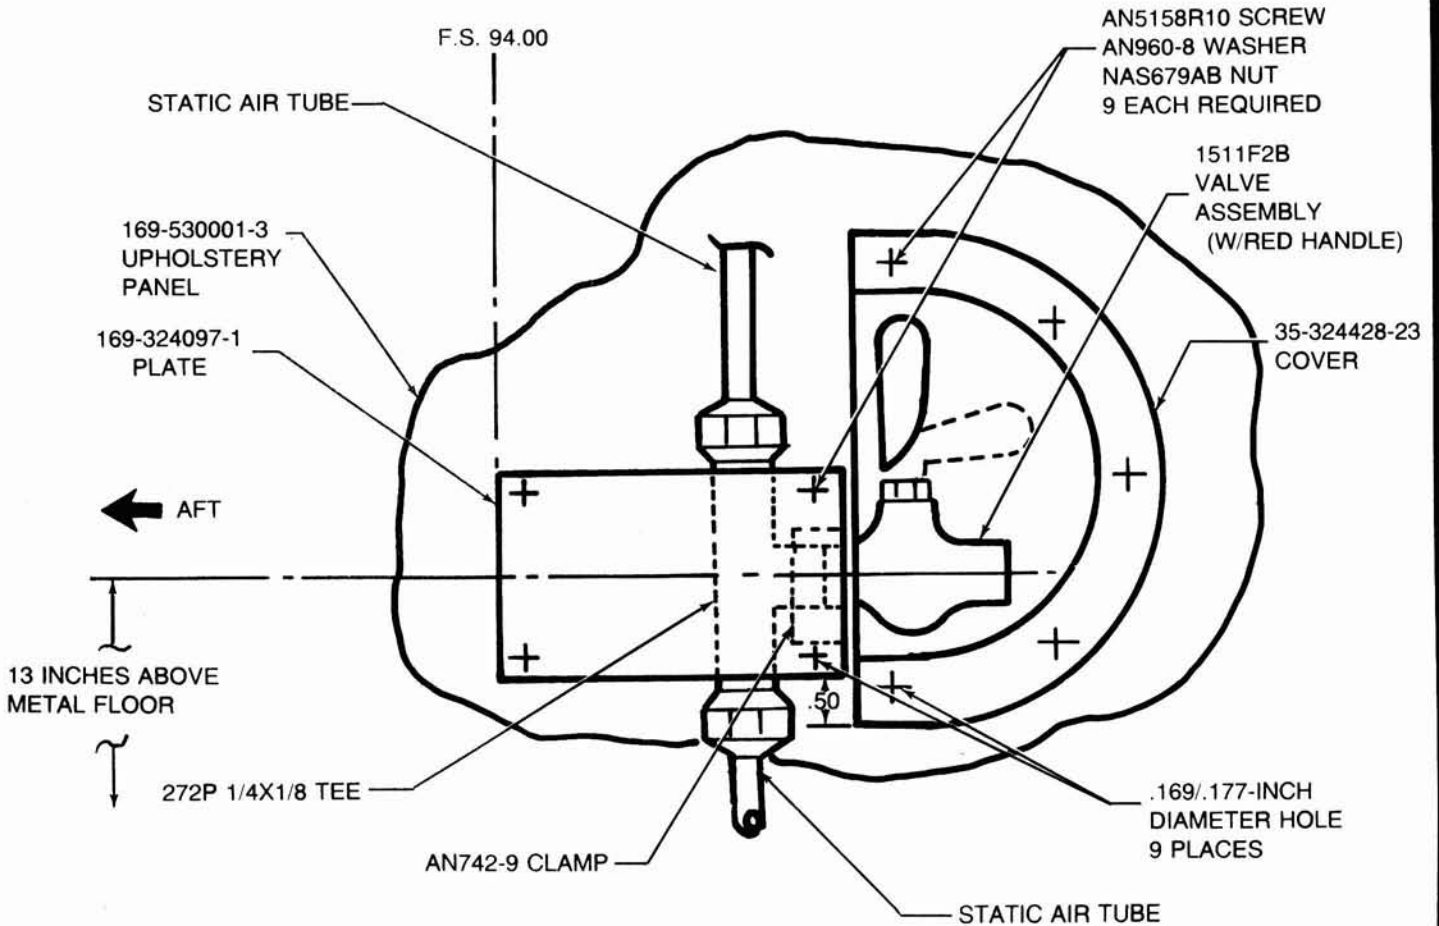

Figure 1
1. Locate fuselage station (F.S.) 94.00 on the left side of the cabin interior (see figure 1).
2. Place the 169-324097-1 plate so that it is centered horizontally 13 inches above the metal floor and the aft edge of the plate is at F.S. 94.00. Use the 169-324097-1 plate for a template and drill four .169/.177 inch diameter holes through the 169-530001-3 upholstery panel (see figure 1).
should be .50 inch below the bottom edge of the 169-324097-1 plate (see figure 1).
6. Remove the 169-530001-3 upholstery panel and install the 169-324097-1 plate and the 35-324428-23 cover on the 169-530001-3 upholstery panel using AN515-8R10 screws, AN960-8 washers and NAS679A8 nuts (see figure 1)
580001-13 static air tube by putting the 169-530001-3 upholstery panel in place and marking the tube where it will fit into the 272P 1/4X1/8 tee (see figure 1). Remove the 169-530001-3 upholstery panel and cut the static air tube.
8. Install the 272P 1/4X1/8 tee on the 169-580001-13 static air tube per figure 1. This tee is manufactured with two fittings to connect to the 169-580001-13 static air tube and one fitting to connect to the 1511F2B valve assembly.
9. Install the 1511F2B valve assembly on the 272P 1/4X1/8 tee per figure 1.
10. Reinstall the 169-530001-3 upholstery panel. Attach the 1511F2B valve assembly and the 272P 1/4X1/8 tee to the 169-530001-3 upholstery panel using the AN742-9 clamp (see figure 1)